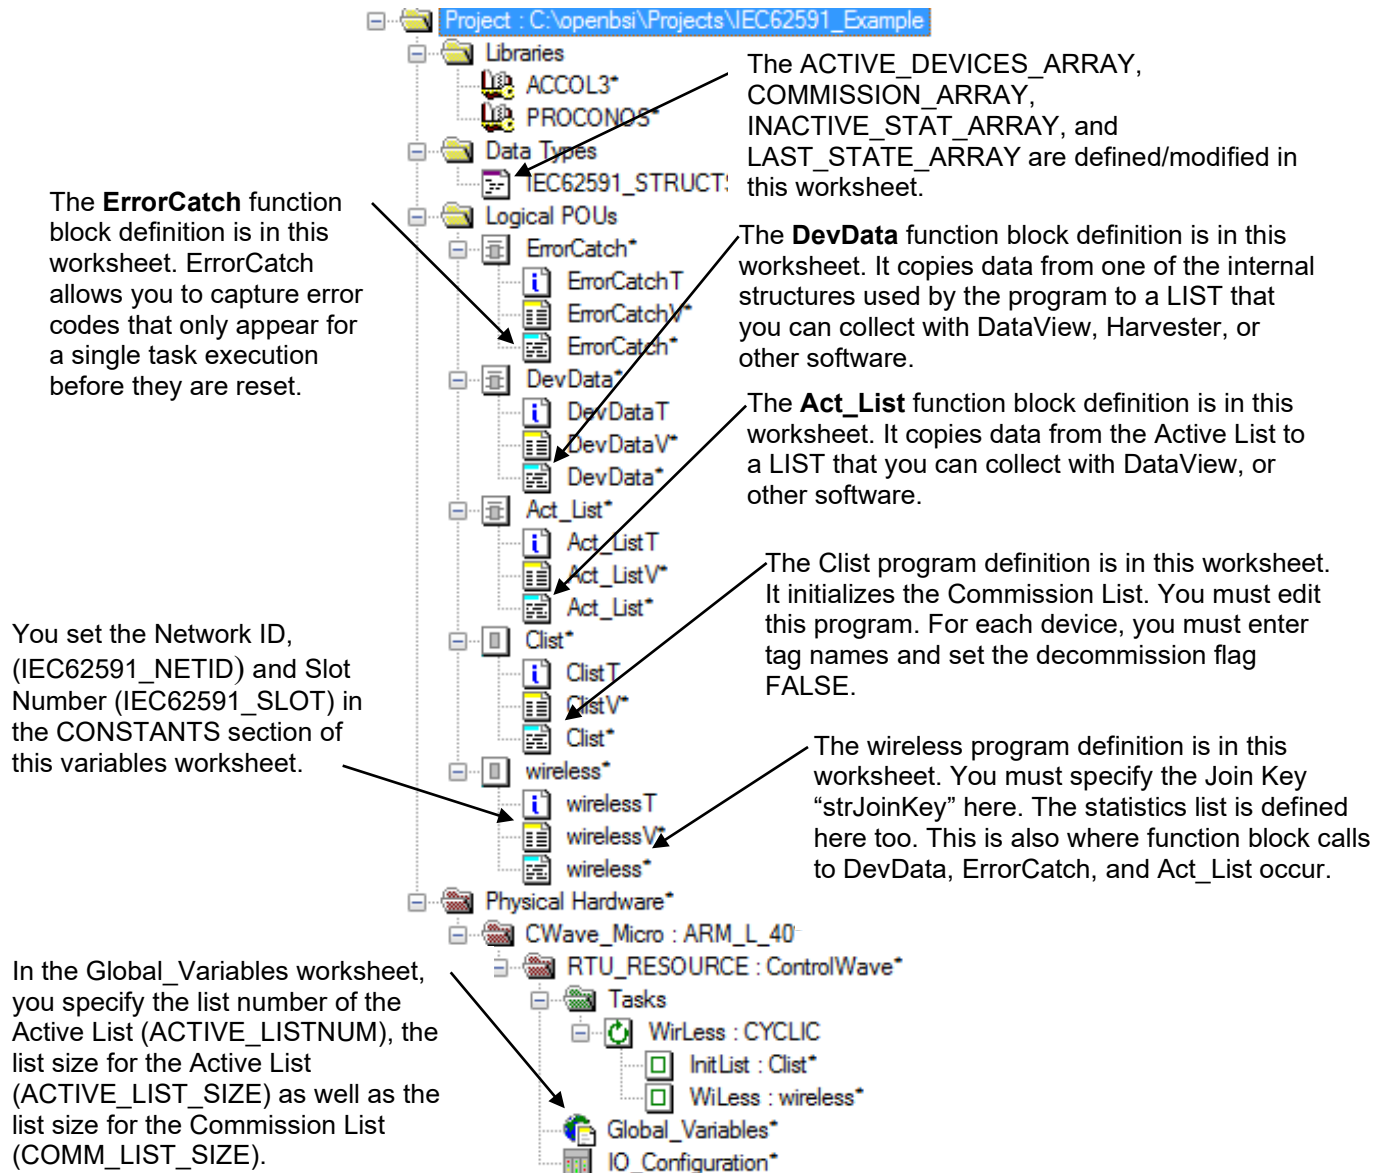

Figure 3-2. IEC 62591 Example – Project Tree
4. When you open the project, you can see the project tree. *Figure 3-2* shows the different worksheets in the project tree.